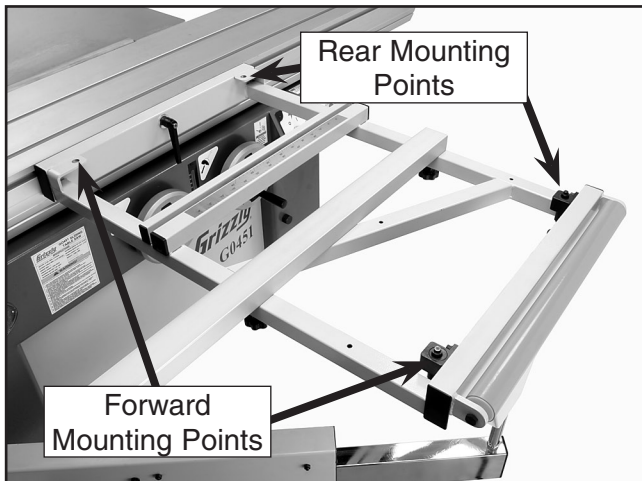

Figure 71. Crosscut fence mounting points.
1. Install the crosscut fence in the forward mounting points shown in **Figure 71** and lock it in place.
1. Install the crosscut fence in the rear mounting points shown in **Figure 71** and lock it in place.